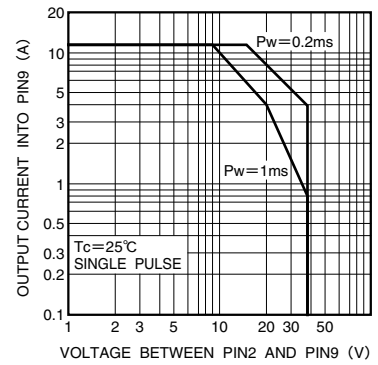

Fig.12 Safety operation range
- (1) No circuit is installed in the modules to protect against over output currents. Take physical safety measures such as fusing if short-circuit loading is probable.
- (2) The output current should be reduced according to an increase in the input voltage or ambient temperature. Use the modules within the derating curve range.
- (3) A large rush current may flow in the module when the input voltage is applied or the output ON / OFF is controlled with pin 4 without a capacitor such as C1 in application 4. Operating within the safe operation ranges shown in Figs.12, 15, and 18.